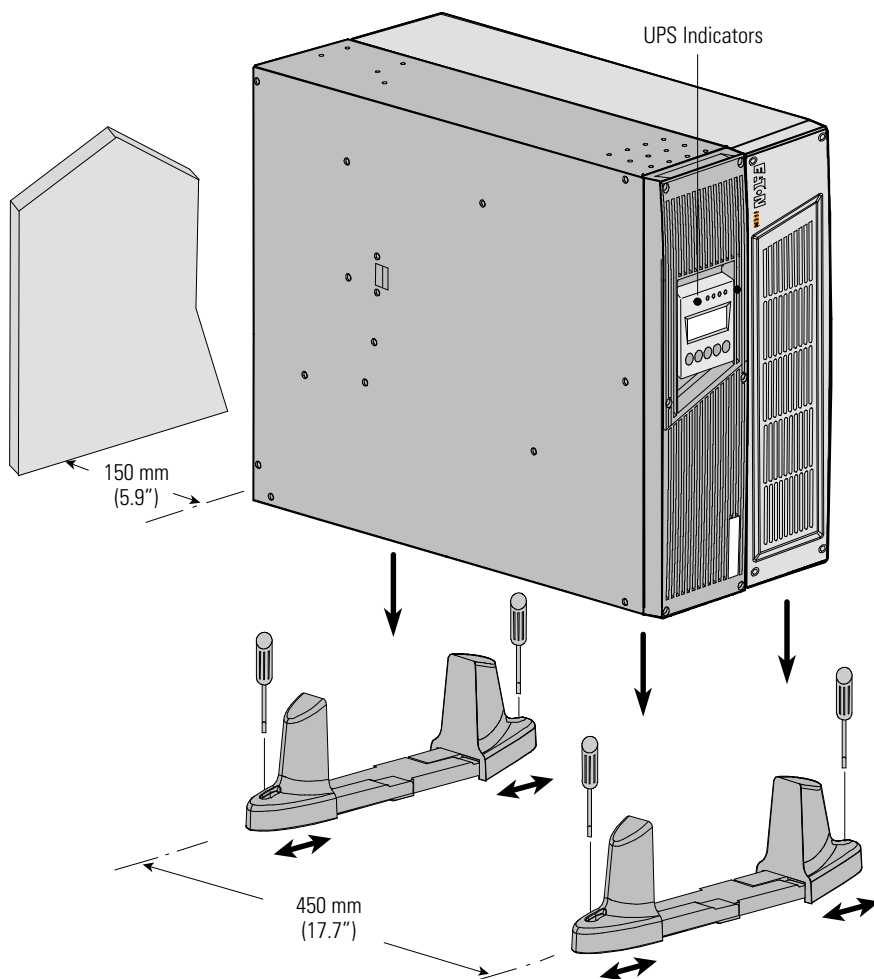

Figure 3. Tower Position with Two Cabinets
3. Carefully position the cabinet upright with the UPS indicators at the top and place in the pedestals (see Figure 3).